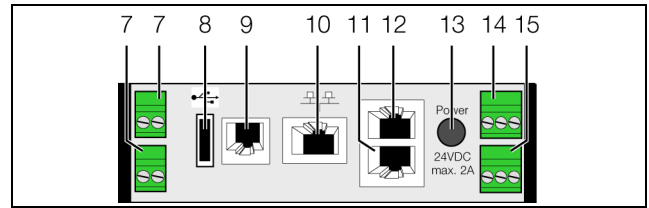

Fig. 9: Rear of the CMC III PU
Legend for fig. 9
- Connect the external power pack (DK 7030.060) to the CMC III PU power supply (fig. 9, pos. 13).
- To do this, connect the 24 V output (direct connection) on the power pack (DK 7030.060) to the appropriate connection of the CMC III PU (fig. 9, pos. 14).
The above designations "left", "centre" and "right" apply when the device is viewed from the rear (fig. 9).
- For example, connect a PoE switch to the Ethernet interface (fig. 9, pos. 10).
- Connect the Ethernet interface (fig. 9, pos. 10) using a network cable with an RJ 45 connector to the existing network structure.
A wide range of sensors, actuators and systems for access monitoring (see chapter 13 "Accessories") can be connected to the two CAN bus interfaces (fig. 9, pos. 11 and 12).
An alarm relay can be connected using a floating alarm-relay output (fig. 9, pos. 15).
A floating switch contact can be connected to each of the digital inputs and so, for example, the fault output of an external device evaluated (fig. 9, pos. 7).